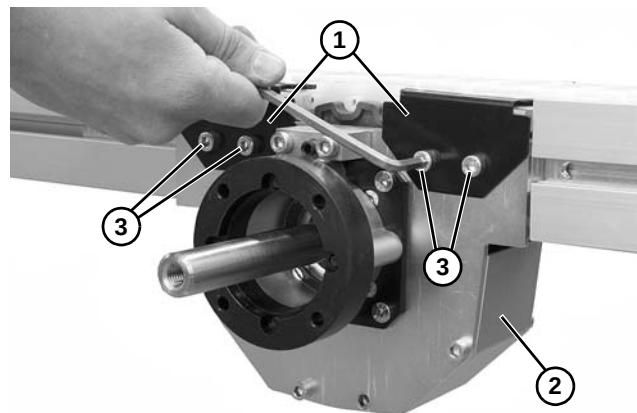

Figure 31
7. Install belt hold down tabs (**Figure 31, item 1**) to drive assembly (**Figure 31, item 2**) using four socket head screws (**Figure 31, item 3**).